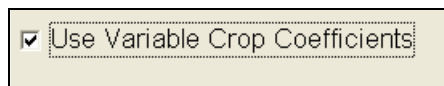

Figure 16.4.34D
- Click on the **Use Variable Crop Coefficients** button to use Crop Coefficients (Figure 16.4.34D).